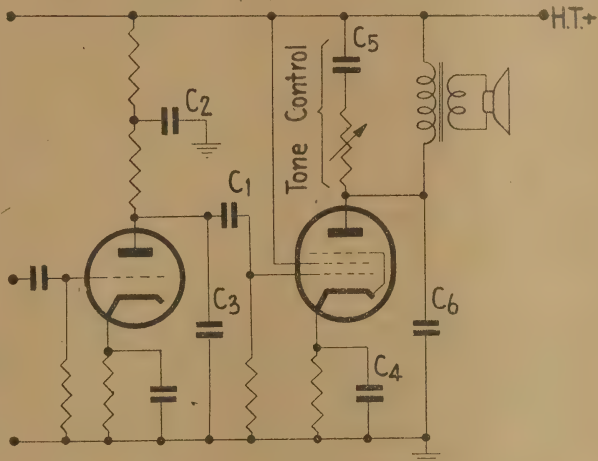

Fig. 1.
or lower (bass) frequencies. The former can be caused by a shorted tone control resistor or by a change in capacity of an output valve's R.F. bypass condenser. The more usual defect lies in the loss of bass response, giving a thin, tinny reproduction and often accompanied by a loss in volume. An extreme case occurs when the coupling condenser C_1 of Fig. 1 is open circuited—strong stations may then be just audible, but very thin in quality. Again, if the cathode bypass condenser C_4 of the output stage loses capacity, the bass response will be attenuated, while an open circuit will also reduce the volume due to negative feedback to the grid.
- (1) Too sharply peaked R.F. and I.F. response curves.
- (2) Shorted tone control resistor or change in capacity of the output R.F. bypass condenser, C_6 , Fig. 1.
- (4) Too large anode bypass condenser, C_3 , Fig. 1.
- (1) The coupling condenser C_1 of Fig. 1 being too low in value, and in extreme cases to being actually open circuited.
- (2) Loss in capacity of the cathode bypass condenser C_4 of the output valve.
- (3) The time constant of the A.V.C. system may be too small, due to either a change in value of the resistors or of the decoupling condensers.